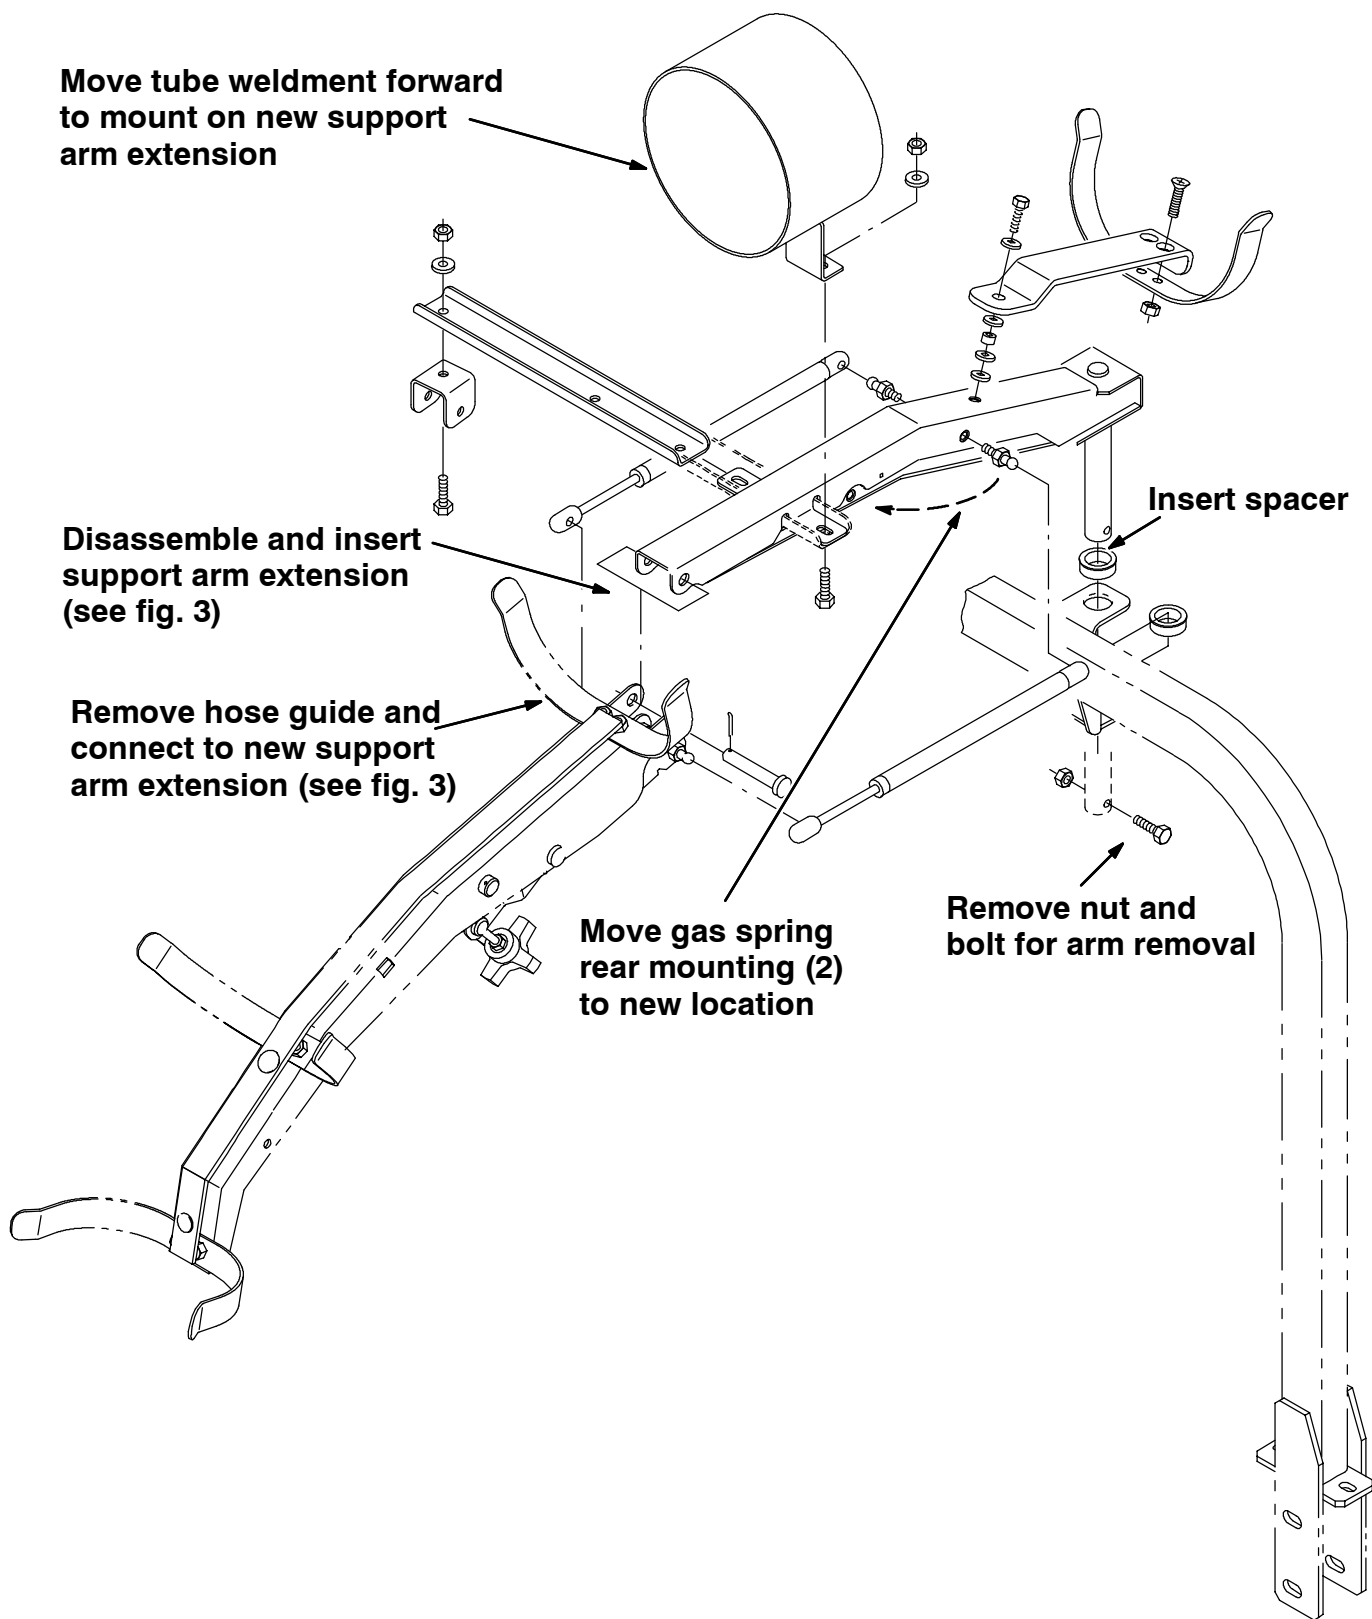
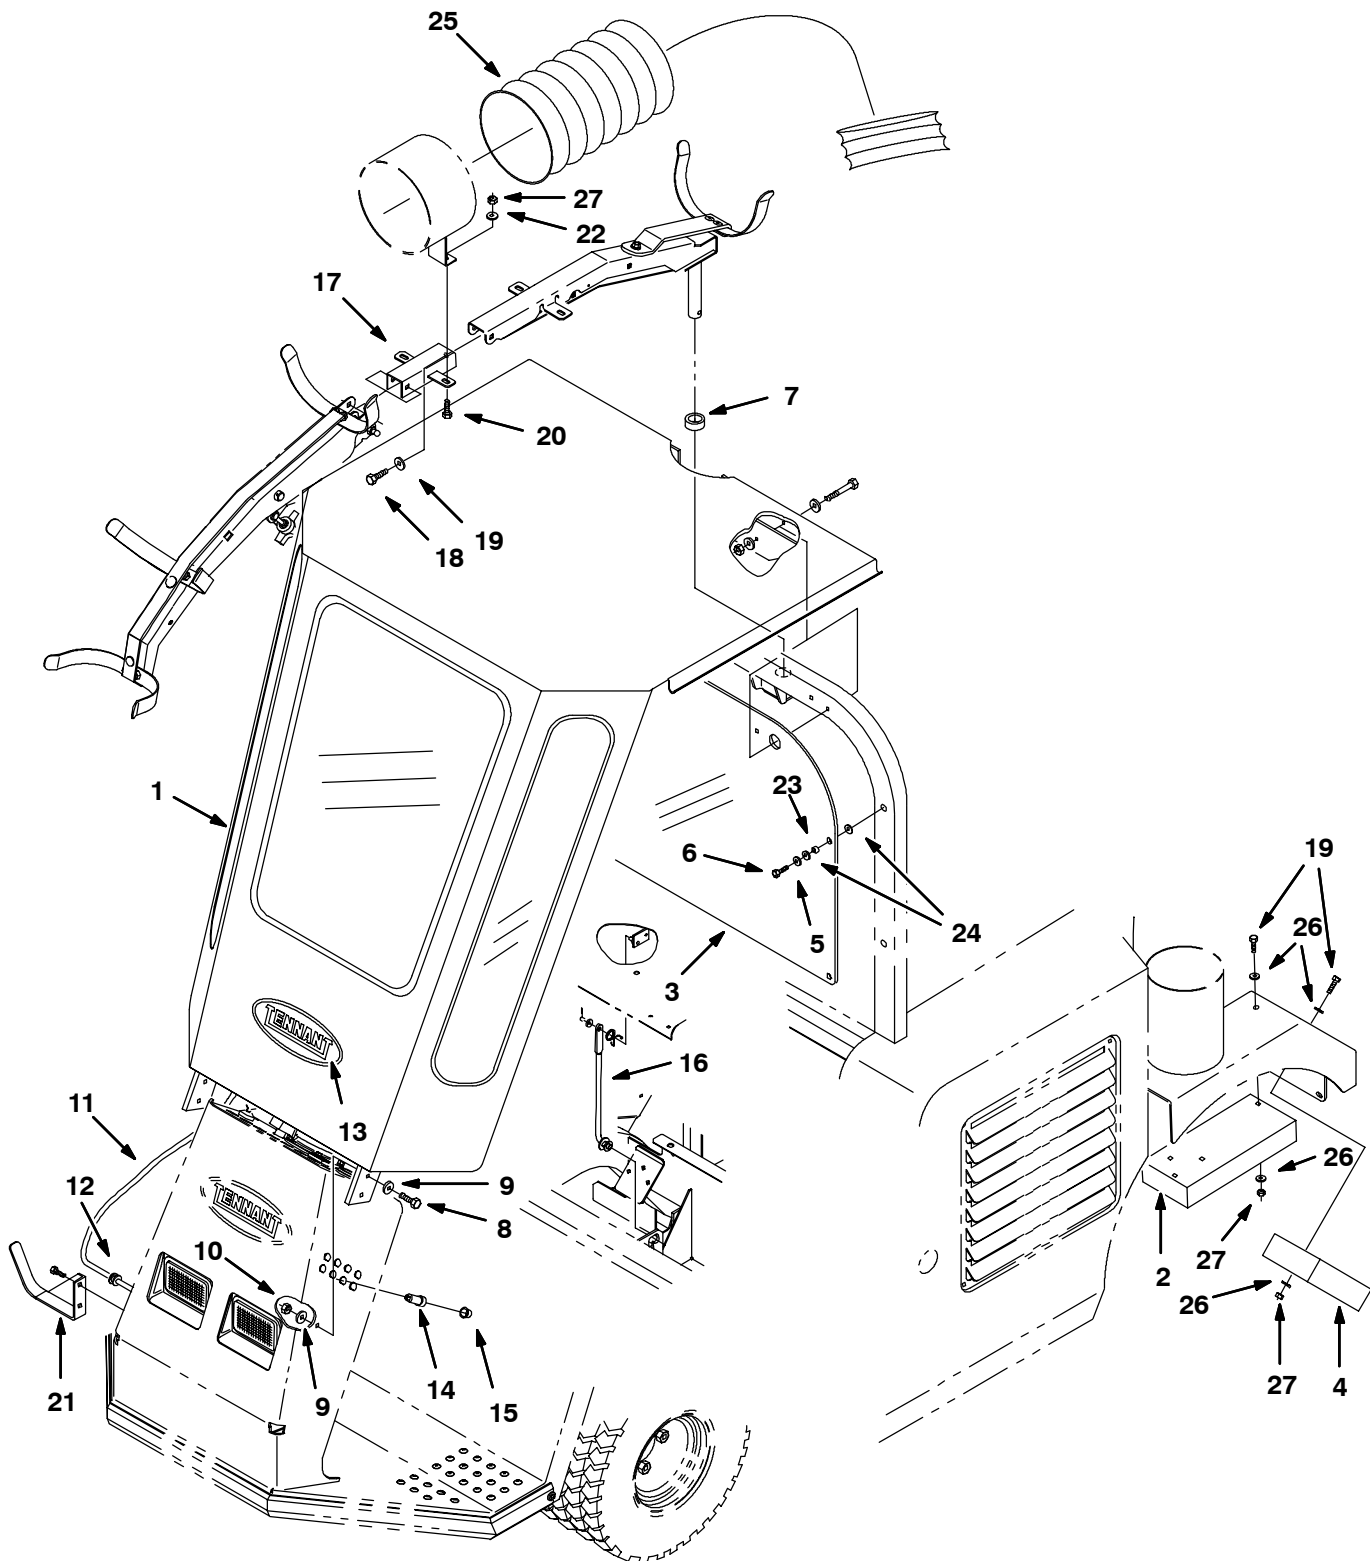

FIG. 2 - VACUUM HOSE SUPPORT ARM BREAKDOWN
FIG. 3 - OPEN CAB KIT
5. Remove nut and hex screw, and remove support arm from machine. (Refer to FIG. 2)
6. Carefully hoist open cab (1) into mounting position on the machine.
7. Loosely install mounting hardware supplied with cab in open cab rear mounting holes. (Refer to FIG. 3 and 4).
8. Gently continue lowering open cab (1) until front mounts are resting in position on machine. Leave a .75 inch (19 mm) gap between cab and top of headlights. (Refer to FIG. 3, 6 and 7)
9. Using the open cab (1) as a template, mark and drill four .438 inch diameter front mounting holes in the front shroud. (Refer to FIG. 3, 6 and 7)
10. Loosely install all front mounting hardware (8, 9 and 10). (Refer to FIG. 3, 6 and 7)
11. FOR MACHINES WITH FENCE LINE HEAD OPTION: Install hanger bracket (21) on right side of cab with the same cab mounting bolts. (Refer to FIG. 3 and 7)
13. Line up rear window (3) with top two mounting holes in cab. (Refer to FIG. 3 and 4)
14. Using rear window (3) as a template, drill four .219dia. holes in roll bar.
(Refer to FIG. 3, 4 and 5)
15. Loosely mount rear window (3) in place with mounting screws (6), stainless washers (5) sleeves (23), and rubber washers (24). (Refer to FIG. 3, 4 and 5)
16. Tighten all window mounting screws (6).
17. Install resettable circuit breaker six (14) and circuit breaker boot (15) in circuit breaker panel. (Refer to FIG. 3)
19. Install rubber grommet (12) in hole. (Refer to FIG. 3, 8 and 9)
26. Move hose guide and tube weldment to new mounting bracket (17). (Refer to FIG. 2 and 4)
27. Install new vacuum hose mounting bracket (17) in vacuum support arm.
(Refer to FIG. 2 and 3)
28. Move both gas spring rear mountings forward to their new locations on the vacuum support arm. (Refer to FIG. 2 and 3)
29. Remount vacuum support arm onto machine with new spacer tube (7). (Refer to FIG. 2 and 3)
30. Reassemble vacuum hose in vacuum hose support arm, replacing rear section with new, longer vacuum hose (25). (Refer to FIG. 3)
31. Using rear wheel weights (2, 4) as templates, mark and drill 3/8 inch mounting holes for wheel weight fasteners. (19, 26 and 27) under rear fenders. (Refer to FIG. 3, 14 and 15)
32. Install wheel weights (2, 4) under rear fenders with hex screws (19), washers (26), and hex nuts (27). (Refer to FIG. 3, 14 and 15)